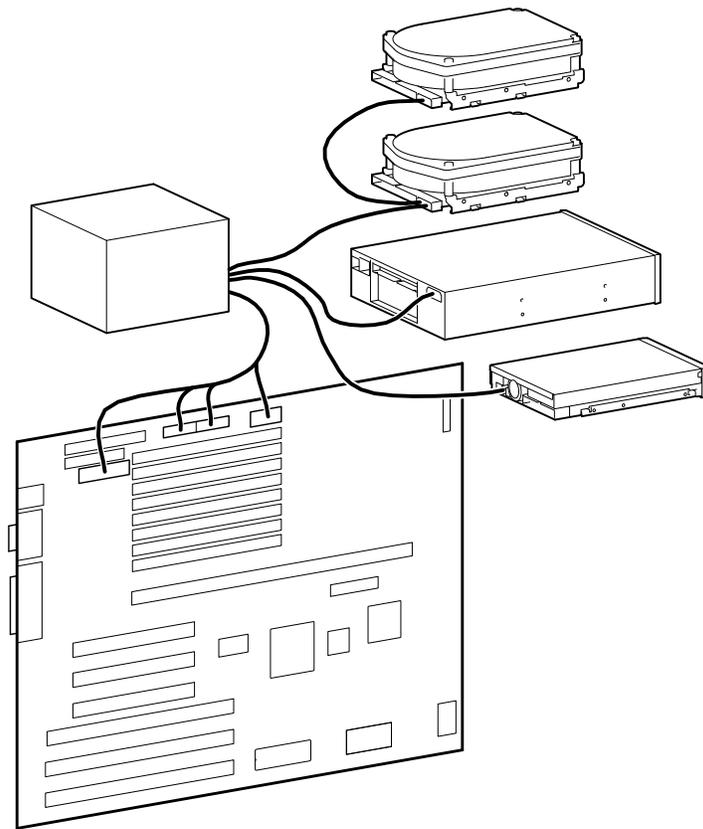

Figure 4-13. Power Cable Configuration
9. Connect a power cable to the device. Figure 4-13 shows the cables from the power supply.